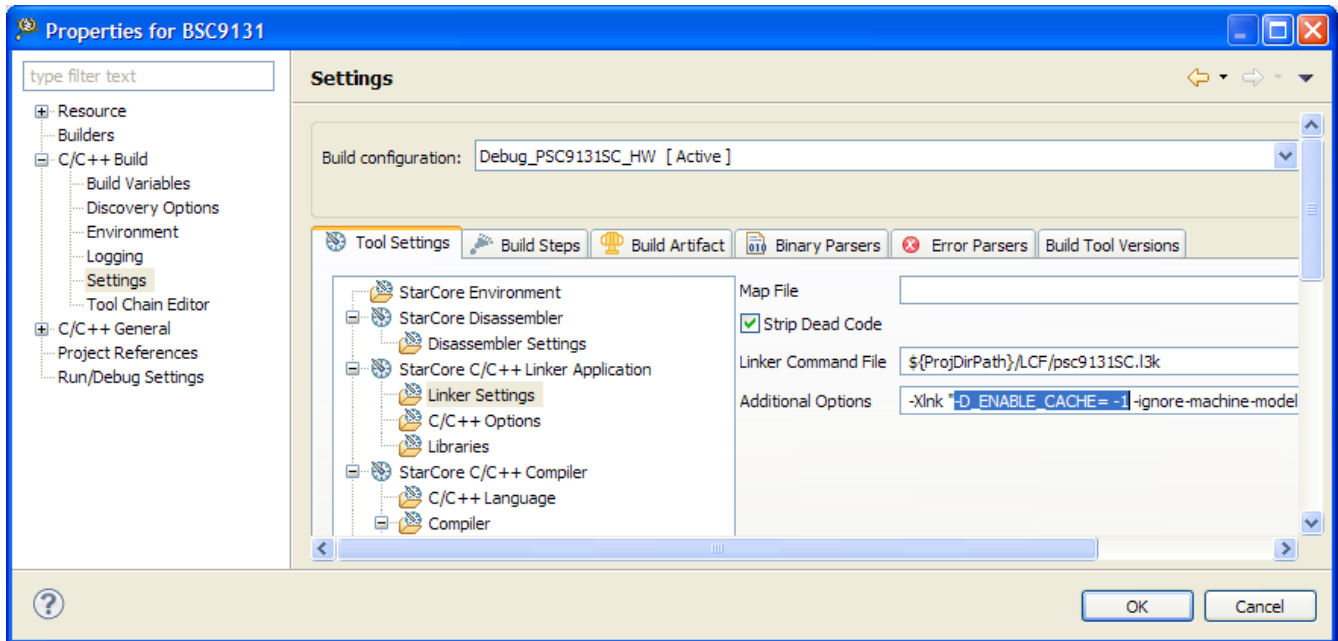

Figure 29. Modifying the linker command line to disable caches
5. Modify the argument `-D_ENABLE_CACHE = 1`, changing it to `-D_ENABLE_CACHE=-1`, as shown in Figure 29.